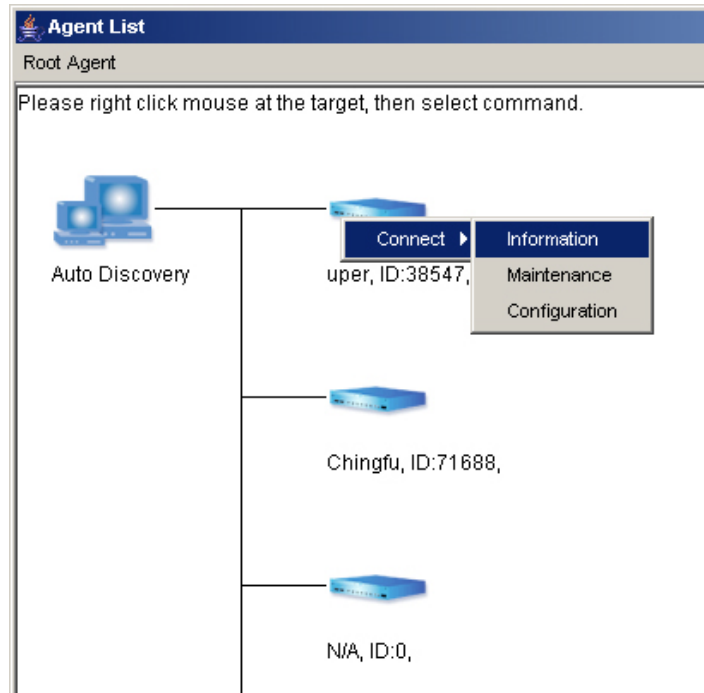

Figure 6-6: Retrieve IP List: IPs Managed by Root Agents
Step 1. If you would like to see the available RAID systems that are connected to the network or a specific root agent, you may click the **Show Root Agent List** button on the bottom of the RAIDWatch Connection window. The window displays the tree tables of the available RAID systems that are detected by Auto Discovery function. An example of an Agent List window is shown in **Figure 6-6**.